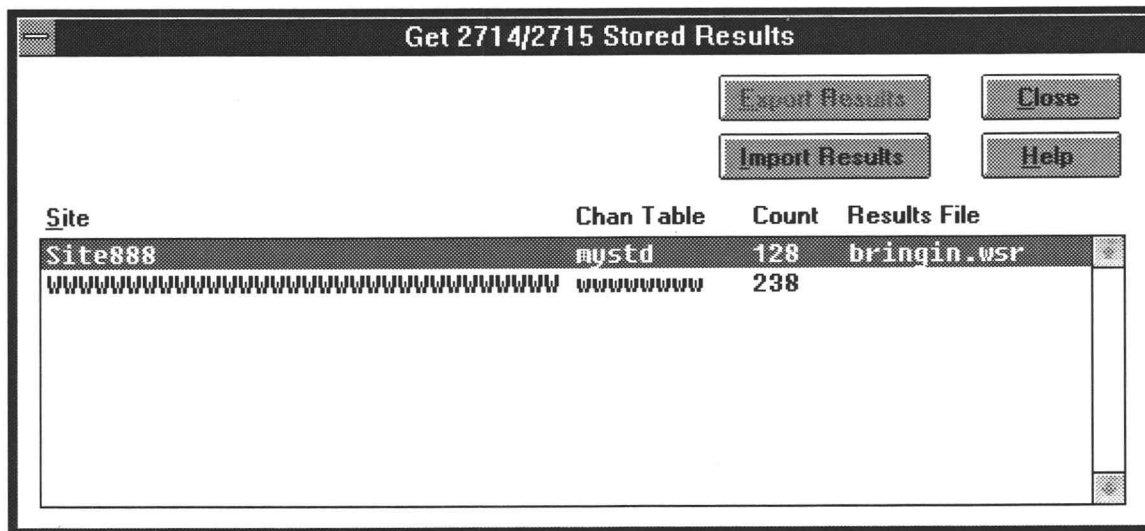

Figure 6-29. The Get Stored Results dialog box after the selected Site results have been Exported to a Results file.
7. Select the OK command button. You are returned to the Get Stored Results dialog box as shown in Figure 6-29. Notice that the Site 888 now has the bringin.wsr results file associated with it and the Export button is disabled.
13. Choose the Use Channel Results option button to load that channel’s results and continue the import process. If there are no more mismatches, the import process is completed when a message box similar to Figure 6-34 appears. Make sure that the number of results transferred is similar to that listed in Get Stored Results Count column in Figure 6-29 (this is a cross check).